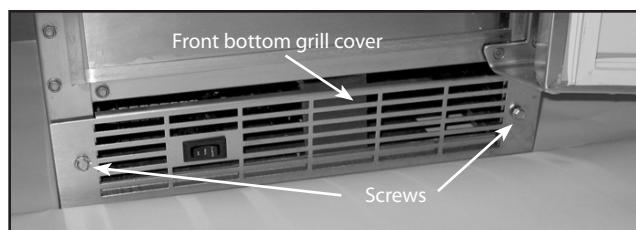

Fig. 01
1. Loosen (2) screws on front bottom grill cover (Fig. 01) approx. 1/8". (No need to remove screws.)
1. Remove (2) screws on front bottom grill cover from the Icemaker and set them aside (Fig. 01).